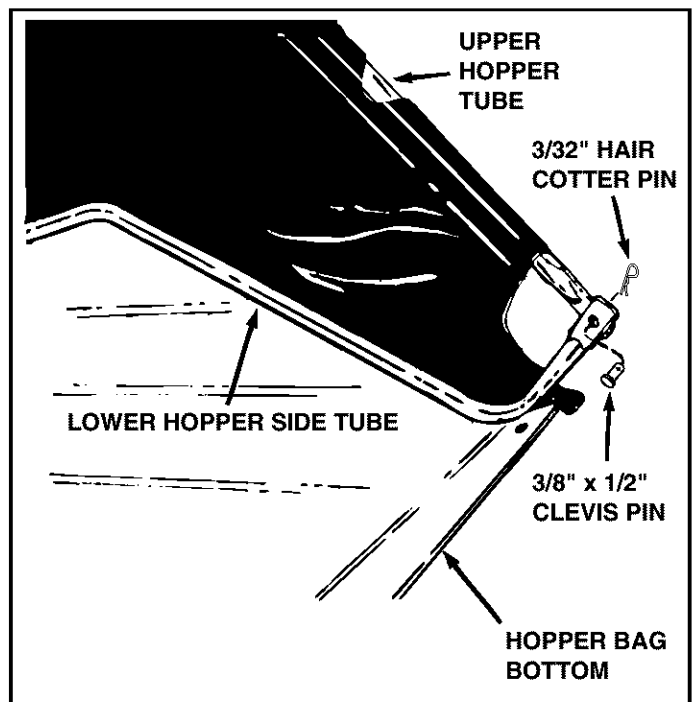

FIGURE 12
- Place the assembled lower hopper tubes into the bottom of the hopper bag as shown in figure 12.
- Attach the ends of the lower hopper side tubes to the **inside** of the upper hopper tubes using two $3/8" \times 1/2"$ clevis pins inserted from the inside, and two $3/32"$ hair cotter pins. See figure 12.